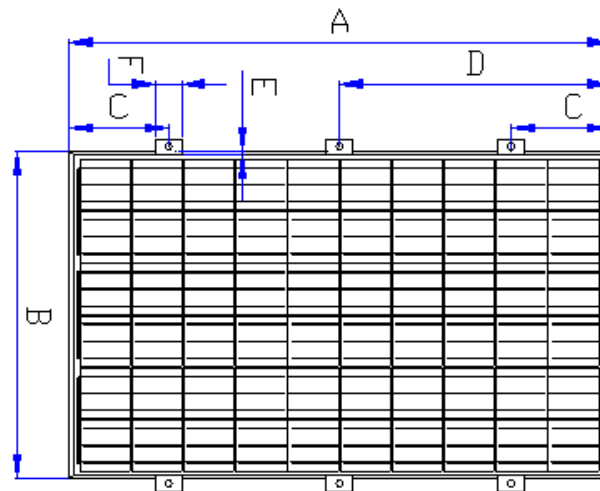

FIG 8
- If heavy snowfall, relatively large snow load or large wind pressure exist in the module installation area, CSUN suggests the customer to selecting the 5400Pa strengthening installation scheme to clamp and fix the module (as shown in FIG 8) to improve the bearing capacity of the module for static snow load at front side and dynamic wind pressure at back side, and enhance the system capacity.